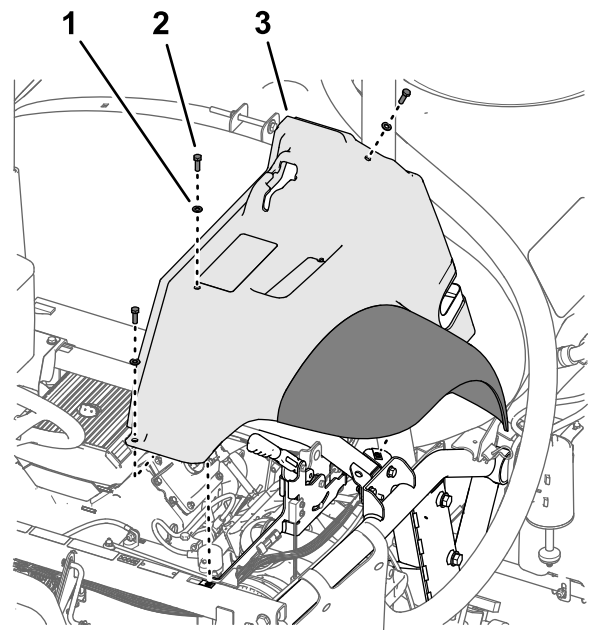

Figure 216
4. Loosely assemble the fender to the frame (Figure 216) with the 3 bolt (5/16 x 1 inch) and 3 washer (5/16 inch) that you removed in step 2 of Removing the Left and Right Front Fenders (page 11).